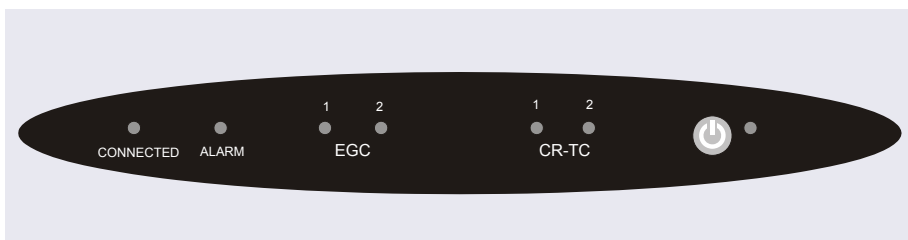

Figure 2-8. EG Status Bar
The status bar on the front of the Dionex ICS-5000⁺ Eluent Generator (EG) includes buttons that provide control of certain EG functions, as well as LEDs that indicate the status of several EG functions (see Figure 2-8).
NOTE For routine on/off control, use the **POWER** button on the front of the EG (see Figure 2-8). To turn off the EG, press and hold the **POWER** button for 2 seconds.